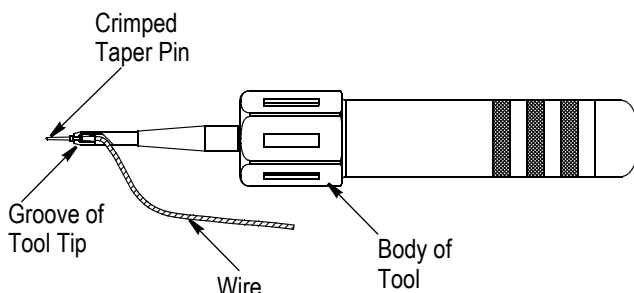

Figure 3
1. Insert the crimped taper pin into the groove of the tool tip as shown in Figure 3. Allow the wire to lay in the groove, and hold the wire against the body of the tool, thereby maintaining some tension on the wire and retaining the taper pin in the tool tip.